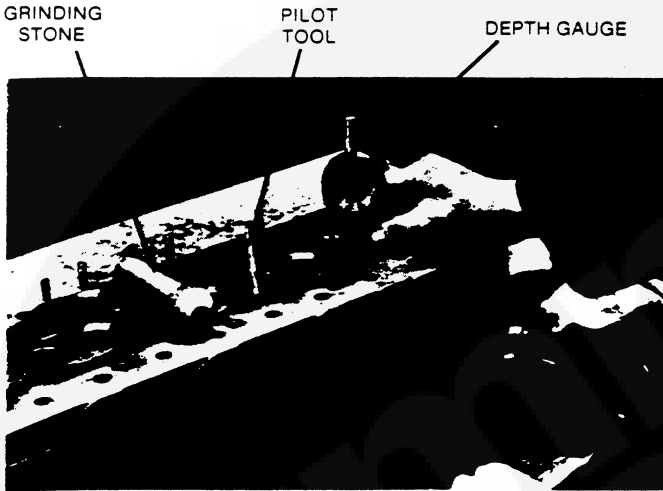

FIGURE 14. VALVE HEAD DEPTH
4. Measure valve head depth (Figure 14). If this depth is less than 0.48 mm (0.0189 inch), grind seat until a depth of 0.48 mm (0.0189 inch) is obtained. If valve head depth is greater than 2.13 mm (0.0839 inch) with a new valve, replace seat insert or have the cylinder head machined to receive a valve seat insert.
4. Measure valve head depth (Figure 14). If this depth is less than 0.67 mm (0.0264 inch), grind seat until a depth of 0.67 mm (0.0264 inch) is obtained. If valve head depth is greater than 2.33 mm (0.0917 inch), replace the valve seat insert.